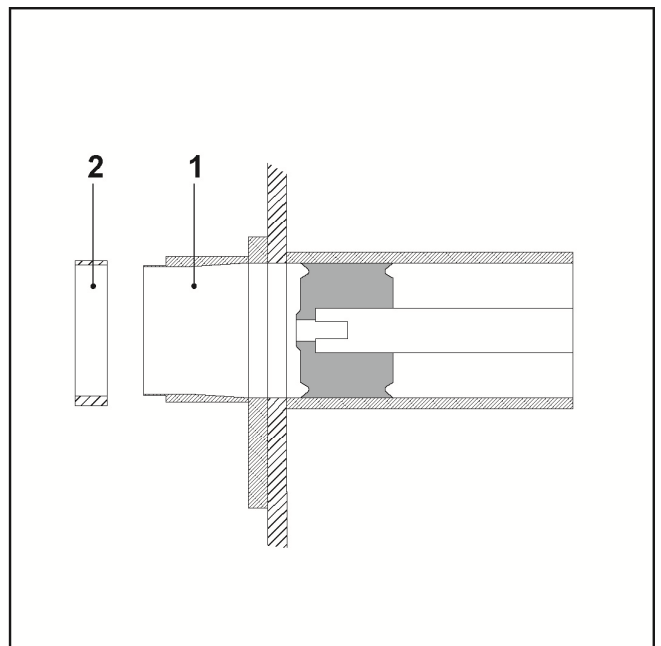

FIG.49
- Slip on the guide ring (FIG. 49-REF. 1) applying the tapered part on the wear plate.
- Holding the guide ring against the liner, slip the spacer (FIG. 49-REF. 2) on to the guide ring.